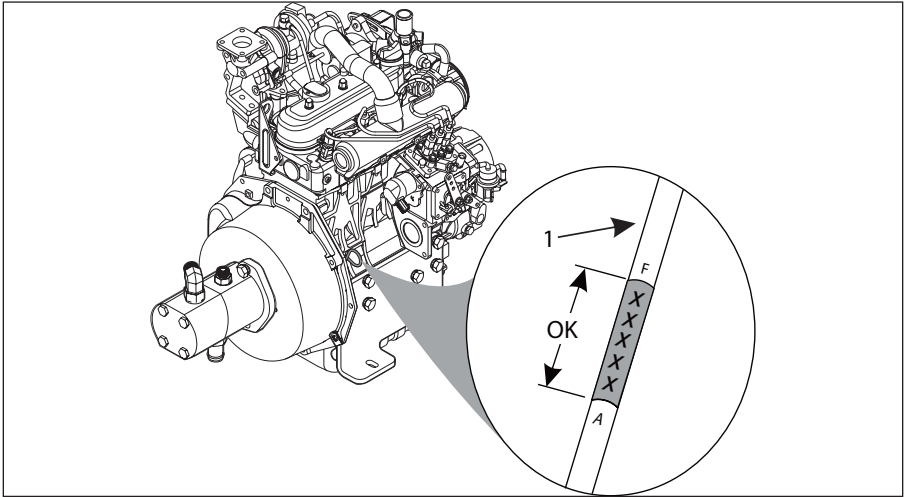

Figure 4-2 Oil Level Check
- b. Pull out dipstick (Item 1, **Figure 4-2**) and look for both the full and add oil lines. The correct level is between those two lines.